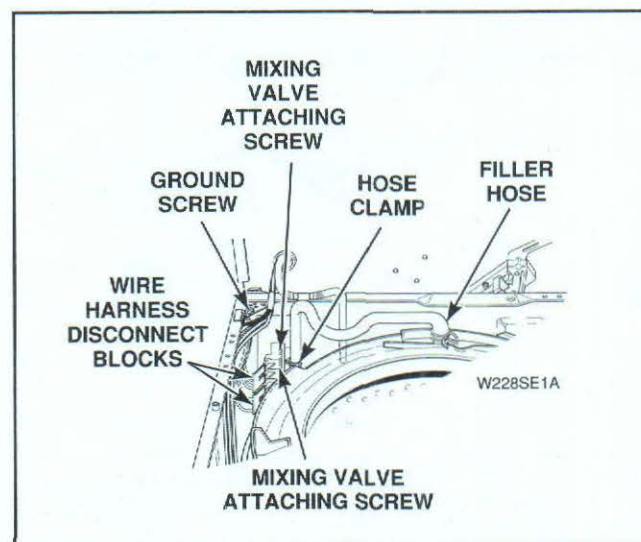

Figure 36
- Remove two screws holding mixing valve to mounting bracket at rear of washer cabinet, *Figure 36*.
- Pull mixing valve out toward front of washer far enough to permit disconnecting water inlet and fill hoses from mixing valve, *Figure 36*.
- Remove wires and quick disconnect blocks from mixing valve solenoid terminals, *Figure 36*.